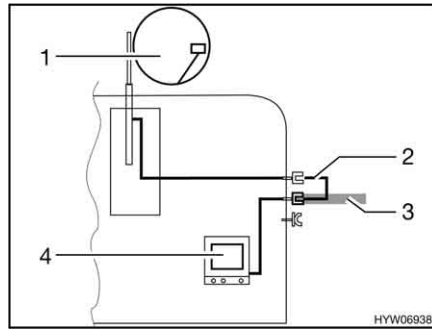

Fig. 98 TV inside the vehicle
- TV inside the vehicle (Fig. 98,4): Connection to roof antenna (Fig. 98,1) with connection cable (Fig. 98,2)
- TV inside the vehicle (Fig. 98,4): Connection to external antenna (Fig. 98,3)